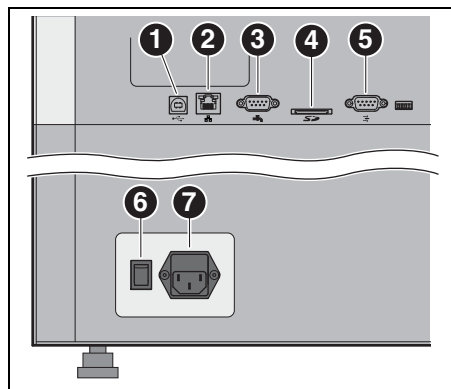
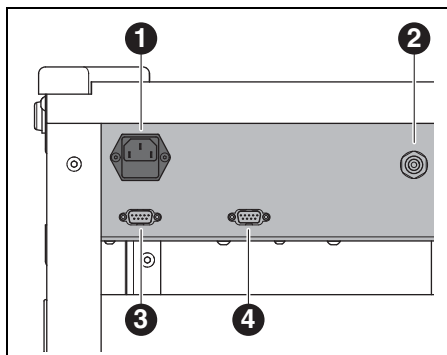

Fig. 12 Interfaces on the rear side of the Ceramill Motion 2
Fig. 13 Interfaces on the rear side of the Ceramill Coolstream
- ▷ Connect the control cable to the control interface for the Ceramill Coolstream on the rear side of the Ceramill Motion 2 ([3] in Fig. 12) and to the rear side of the Ceramill Coolstream ([3] in Fig. 13).
- ▷ Connect the control cable of the extraction system to the control interface for extraction on the rear side of the Ceramill Coolstream ([4] in Fig. 13).
- ▷ Connect the mains cable to the power supply connection ([1] in Fig. 13) of the Ceramill Coolstream as well as to a mains socket outlet.
- ▷ Connect the USB cable to the USB data port ([1] in Fig. 12) of the Ceramill Motion 2 and to a free USB port of the PC.